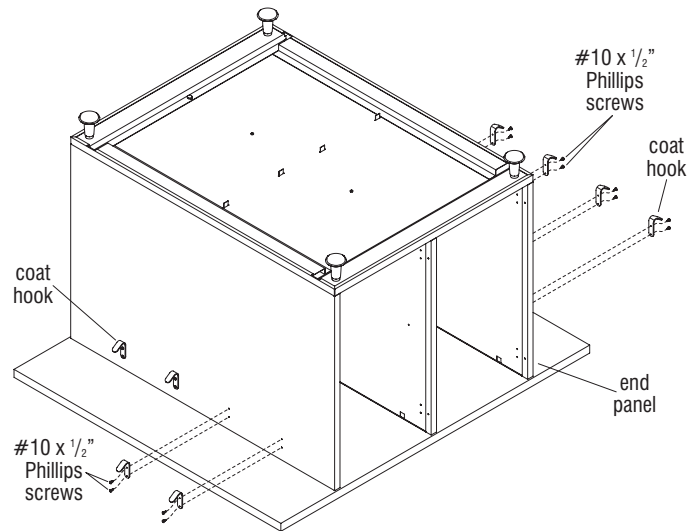

Figure 6
9. Eight coat hooks (four per side) are supplied for installation to the worktable. Orient each coat hook as illustrated, then using #10 x 1/2" Phillips screws, install the desired number of coat hooks to pre-drilled holes in the end panel near the worksurface (Figure 6).